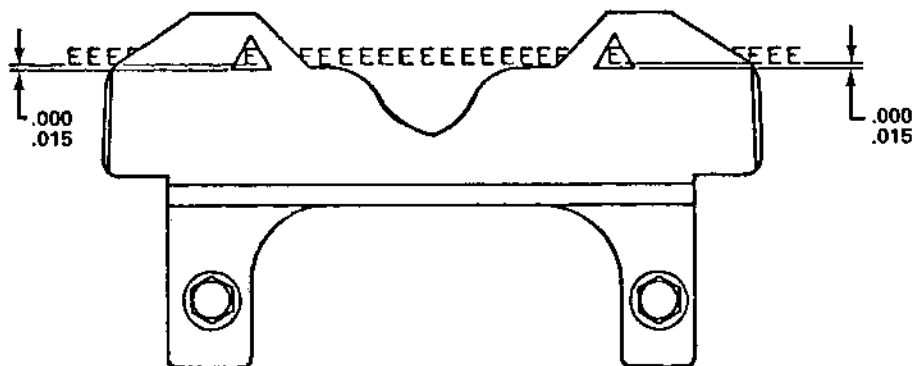

Figure 5-24 CARD GUIDE ALIGNMENT
Refer to Figure 5-24. Check the alignment of the card guide. As shown, the bottom lines of the printed A's must be even with the bottom edges of the triangular openings (A1) in the card guide (A) within .000" to .010" as shown. Make minor adjustments to the card guide height as required to achieve proper card guide positioning. See NOTE in subsection 5.4.4.3 step 2.